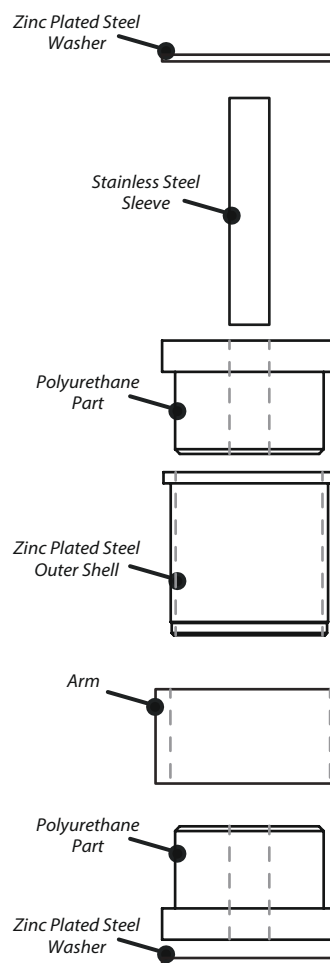

Figure 1
3. Push the outer shell into the arm with the larger diameter fitting towards the outside of the car until the lip sits against the arm, as shown in Figure 1.